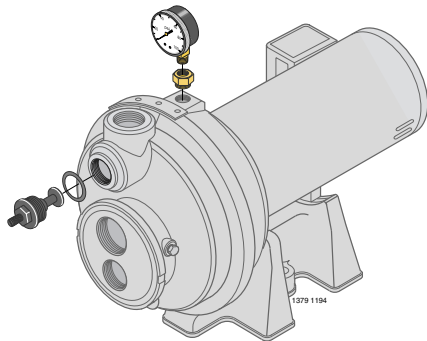

Figure 1: Install Control Valve and Gauge
2. Install the control valve and pressure gauge in the pump body (see Figure 1).
1. Install the control valve and pressure gauge in the pump body (see Figure 1).